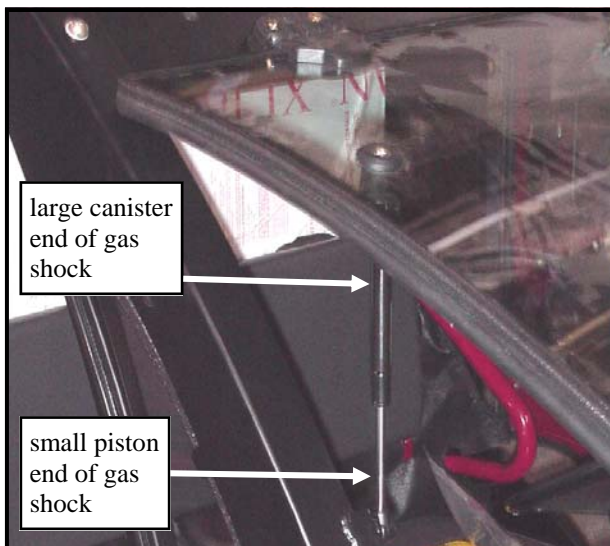

Fig. 12.1 (view from passenger's side)
12.1 With all bolts tight and floorboards drilled and secured, open the windshield and attach the two gas shocks as shown in Fig. 12.1. The rod end of the gas shock must be installed down as shown. Press the button on the compression fastener to lock the gas shock to the ball stud.